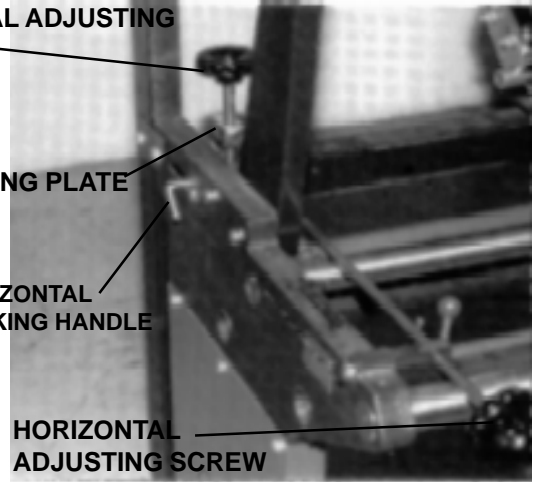
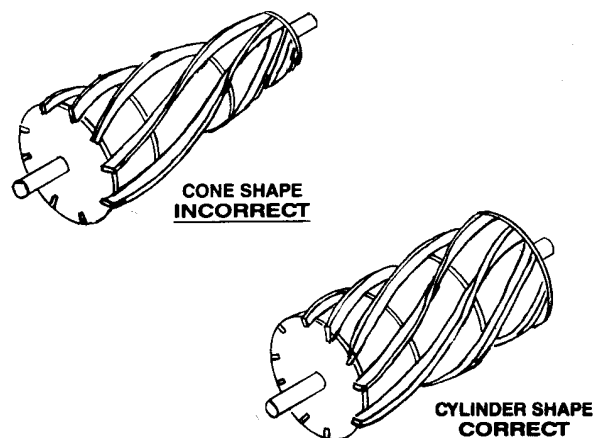

Fig. 21
Fig. 22
1. With the reel set gage still in the left hand side of reel, turn the horizontal adjusting screw (Fig. 21) in the direction required to match the initial indicator reading on the right hand reel position side. (See Fig. 19A, 19B, 19C)
I. When the horizontal parallelism has been adjusted to within .003" end to end tighten the horizontal adjustment locking handle (See Fig. 21), and both overhead clamp adjusting knobs. (See Fig. 22) When tightening the knob it is very important that you have the dial indicator located at the side of the reel and watch it as you tighten. It must not move in the tightening process. After both knobs are tight, recheck alignment.
A. Before storing the set-up gage, it is very effective to use it to check the unground reel to determine the amount the reel is conical in shape or which end has the larger diameter. (See Fig. 22) Start with the set-up gage at the right end of the reel. Loosen the wing nut on the indicator stop bar, holding the indicator rod firmly against one blade (see Fig. 24). Pull the indicator stop bar back until it clears the plunger, then advance it forward until it contacts the plunger and advances it 1/2 inch further. Lock in place. This sets the plunger at its midpoint and allows adequate movement in both directions. Set outer dial at zero and note position of pointer on small dial.